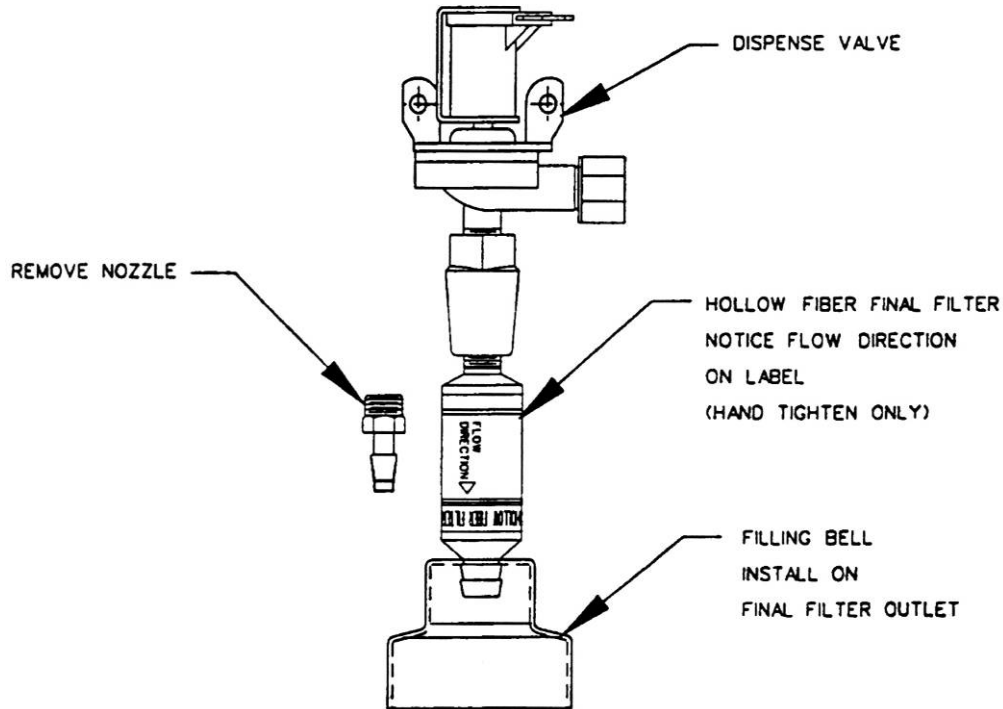

Figure 7
- (2) Place a suitable container or a hose that goes to a drain over the dispense valve or dispense gun nozzle and SLOWLY open the inlet supply valve.
- (3) Plug the unit into an electrical outlet and turn the power switch on.
- (4) If the optional filter P/N 9092900 has been ordered, remove it from its plastic bag and thread it into either the dispense valve or the gun. The nozzle on the valve or gun must be removed before installing hollow fiber final filter. Orient filter as shown on label. **HAND TIGHTEN ONLY**. Reference Figure 7.
- (5) Install the optional filling bell P/N 9044100 by pushing it into the final filter outlet. Filling bell will only fit over the final filter outlet when installed on the dispense valve and will not fit on a final filter installed on the gun. Reference Figure 7.